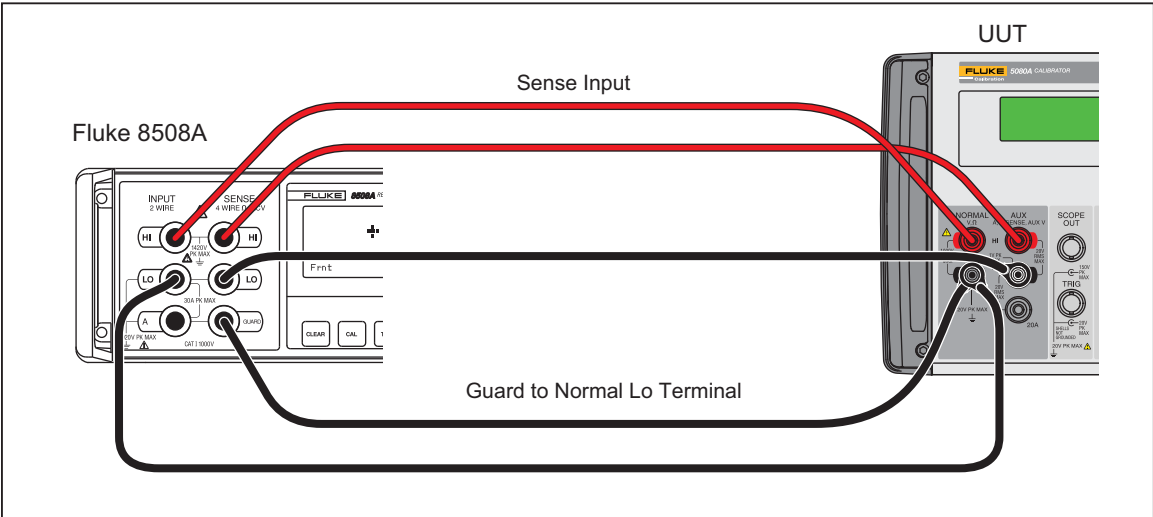

Figure 15. Connections for Calibrating 4-Wire Resistance
3. Follow the prompt on the Control Display to connect the DMM to the UUT for 4-wire ohms measurement as shown in Figure 15.